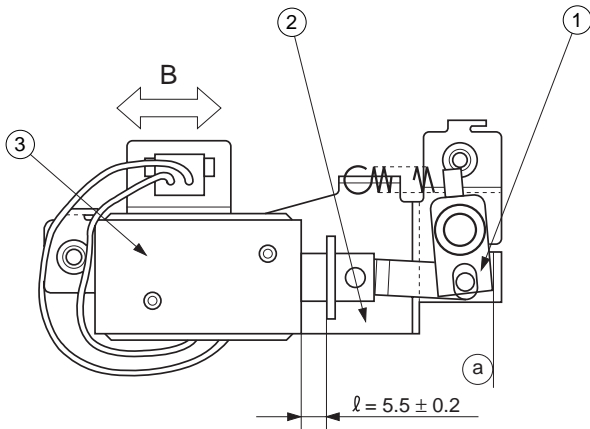

Figure 4-507
Loosen the two screws used to fix the solenoid ③ in place and move the solenoid ③ in the the direction of arrow B so that the distance  $l$  in Figure 4-507 is  $5.5 \pm 0.2$  mm when the joint ① is butted against ② of the solenoid support plate ②.